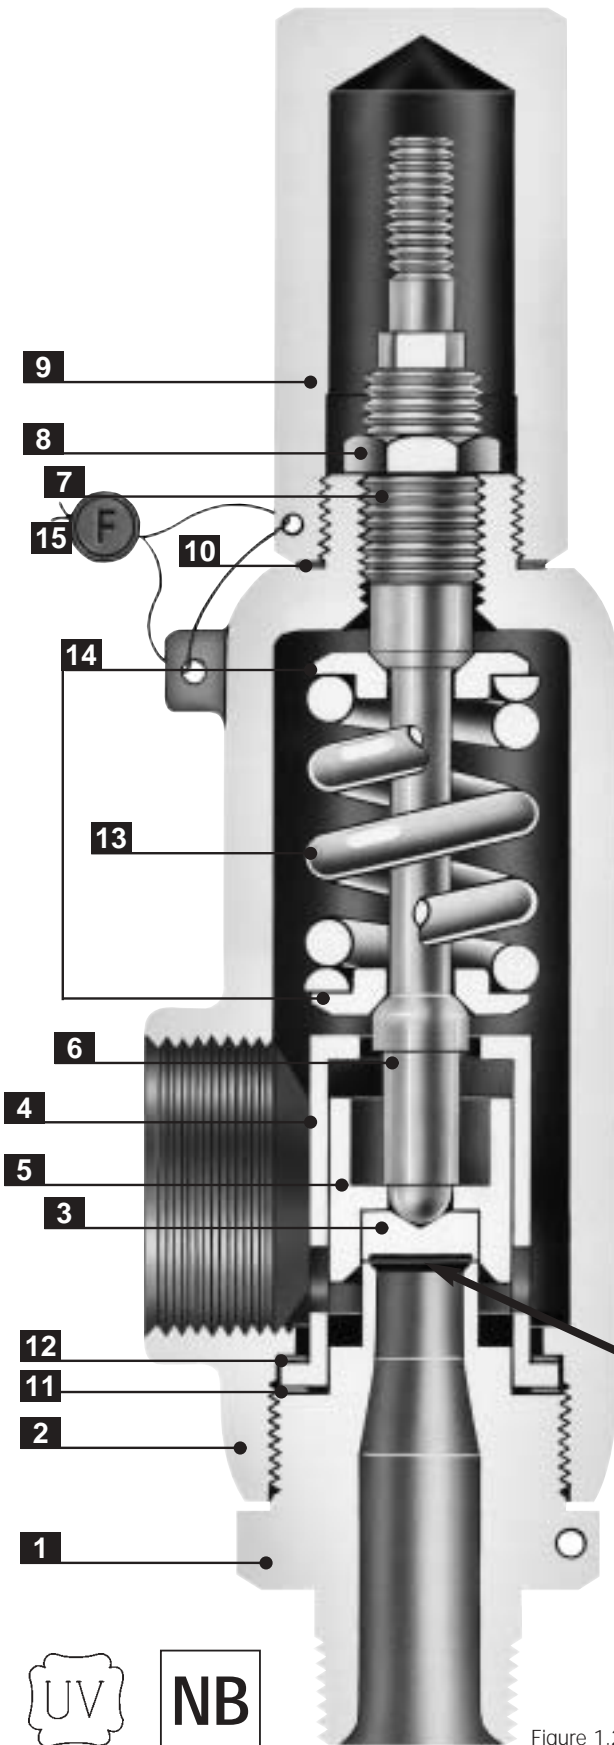
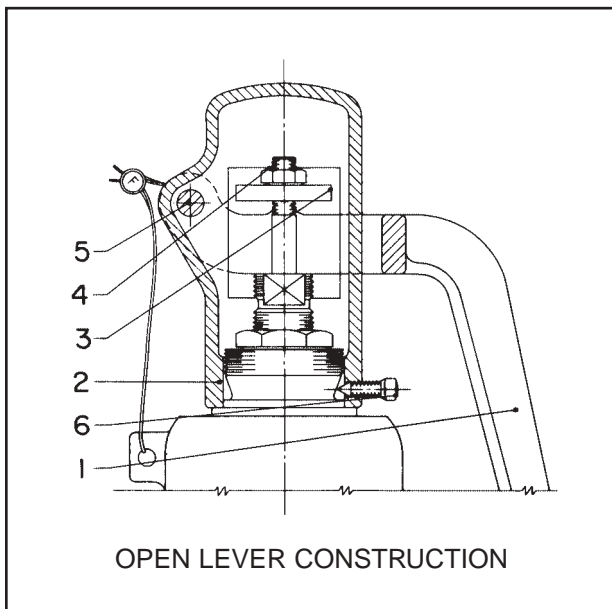

Figure 1.2
Figure 1.5
A. Open Lifting Lever (Figure 1.5)
1. Refer to Figure 1.2 for construction details, and Figures 1.5 and 1.6 for open lever and packed lever cap construction details.